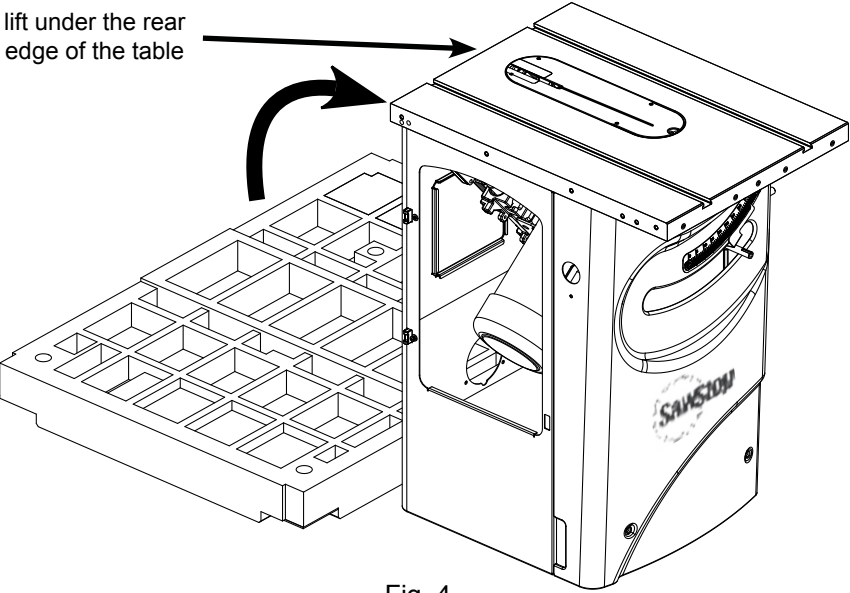

Fig. 4
- 4. With the help of another person, carefully tip the saw to the upright position by lifting under the rear edge of the cast iron table (see Fig. 4). Lift the saw slowly so that it slides off the Styrofoam and onto the floor without damaging the cabinet.